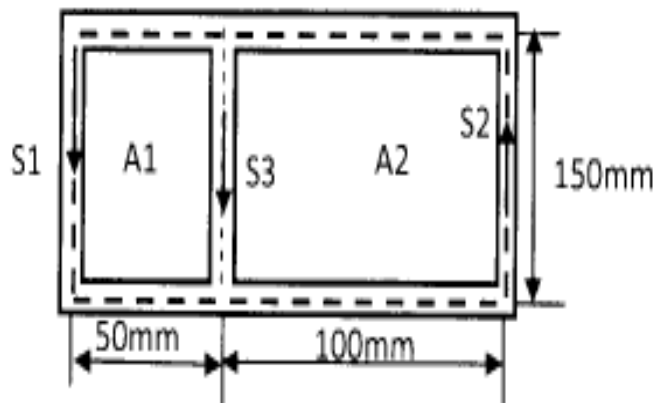

Figure 1
18. Determine the maximum torque that can be applied on the section shown in Figure 1 if the allowable shear is 300 N/mm^2 . Calculate the angle of twist per unit length of the shaft under the above torque. Also determine the shear in various parts of the section. The wall thickness is uniform and has a value of 15 mm . Given modulus of rigidity is $2 \times 10^4 \text{ N/mm}^2$. (6)